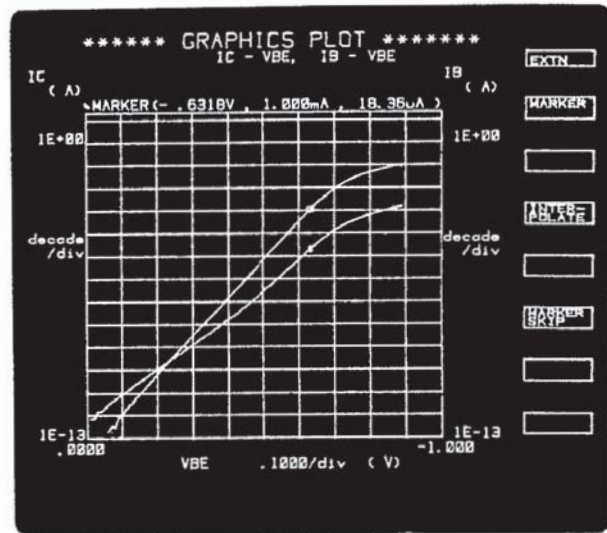

Figure 8.
On this page we will select the mode for displaying the measurement results. Four modes are available – GRAPHICS, LIST, MATRIX, and SCHMOO. For our measurement, we will use the GRAPHICS display mode. Base-emitter voltage (V_E) will be plotted along the X-axis, collector current (I_C) along the Y_1 -axis, and base current (I_B) along the Y_2 -axis. See Figure 8.
All measurement conditions have been set and the 4145B is now ready to make the measurement. Close the test fixture lid (shields the DUT from RFI and EMI sources) and press the **SINGLE** key. The 4145B will begin sweeping the base-emitter voltage, V_E , from 0V to -0.9V in -10mV steps. The resultant collector current, I_C , and base current, I_B , will be measured at each V_E step and plotted on the CRT as shown in Figure 8. The curve with the more acute slope is collector current, and the other curve is base current.
The marker can be used to simplify keyboard calculations. For example, to calculate h_{FE} at the marker position in Figure 8, key in **(I) (C) (/) (I) (B) (EXECUTE)**. It is not necessary to input the numeric values.